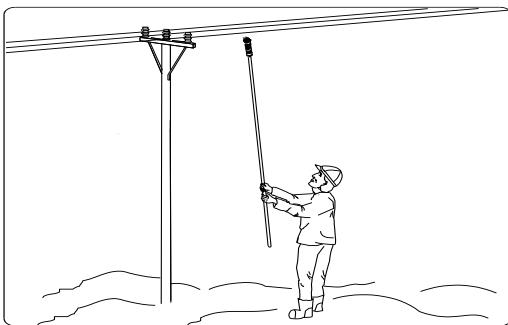

Figure 14 Hot-stick mounting, - close to the traverse
LINETROLL 110E $\mu$  mounts directly on the high voltage conductor using a Hot-stick as shown in fig 14. It should be mounted as close as possible to a traverse to escape line vibrations.
1. Fix the indicator to the hot-stick and raise/lift it to the line as shown in fig 14.